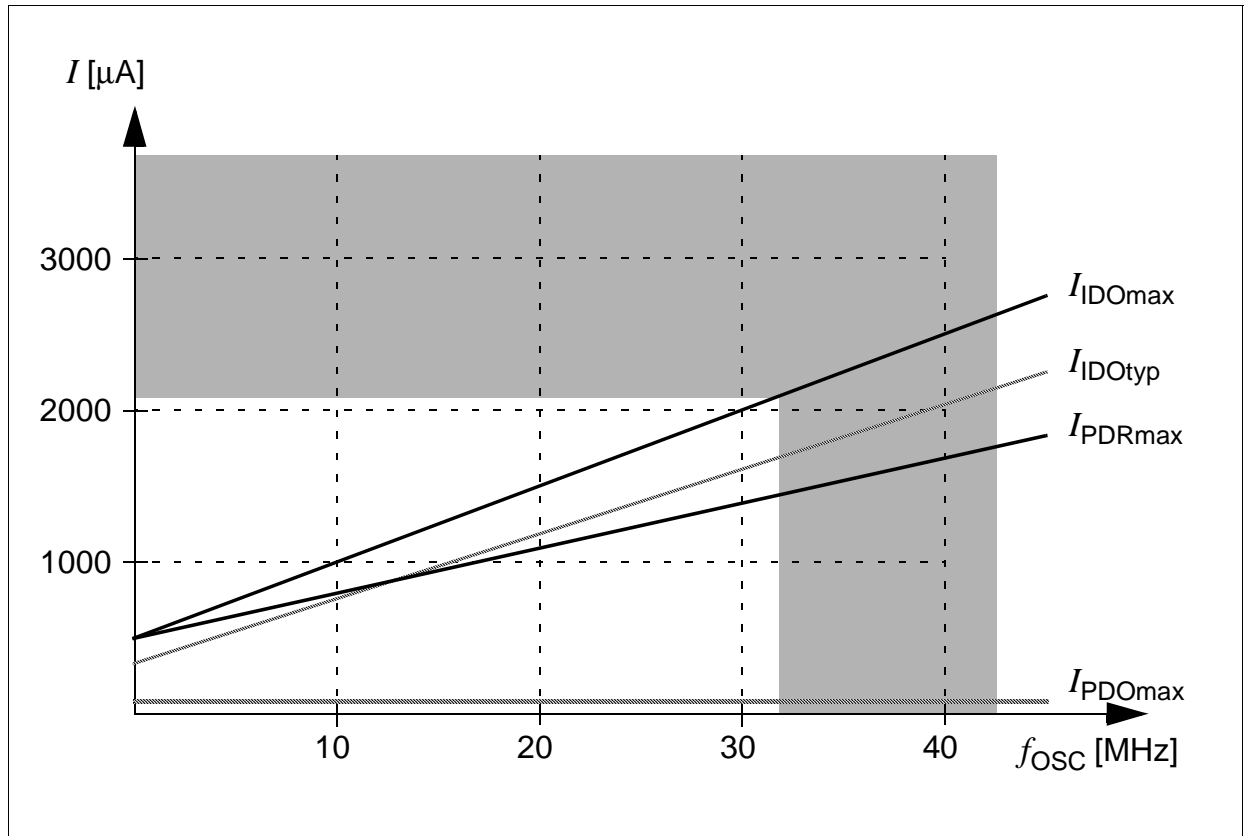

Figure 9 Idle and Power Down Supply Current as a Function of Oscillator Frequency
3) This parameter is determined mainly by the current consumed by the oscillator (see Figure 9). This current, however, is influenced by the external oscillator circuitry (crystal, capacitors). The values given refer to a typical circuitry and may change in case of a not optimized external oscillator circuitry (see also application notes AP2420: Crystal Oscillator, AP2424: Ceramic Resonator Oscillator).